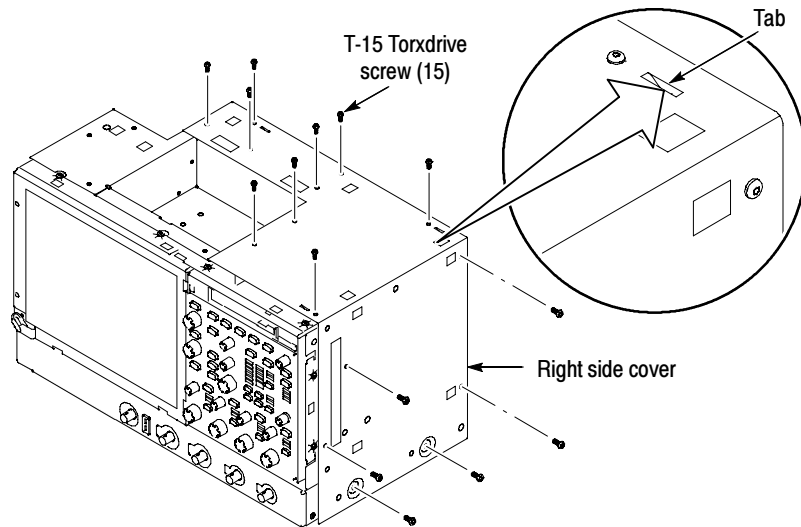

Figure 4: Right-side cover removal
1. *Remove the right-side cover:* See Figure 4.